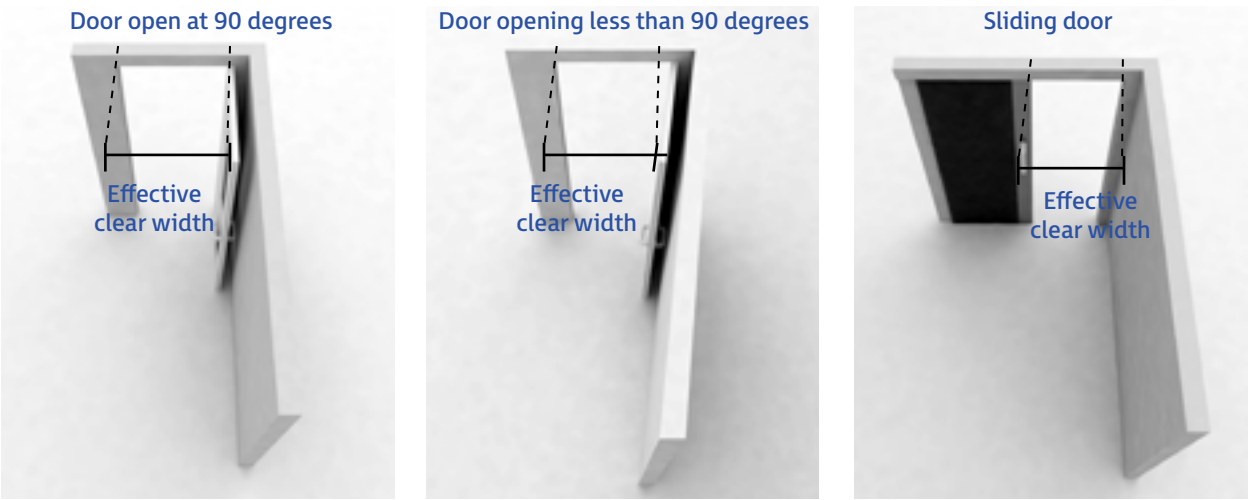

Figure 44 / Effective Clear Door widths
- 2. The effective clear width provided through a single leaf door, or one leaf of a double leaf door complies with Table 6 when measured in accordance with Figure 44.